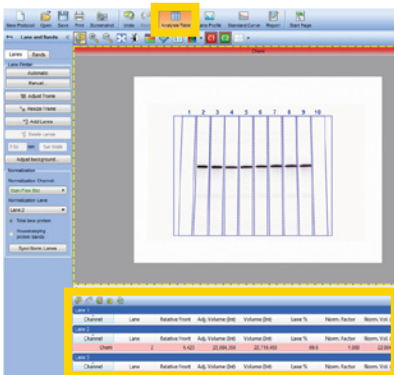

Fig. 7. Analysis table with the calculated normalization factor and normalized volumes.
- View the normalized volumes by selecting **Analysis Table** from the main toolbar (Figure 7). All calculations will be performed by the software, including the normalization factor and normalized volumes. The chemiluminescent blot channel intensity values are now adjusted for variation in the protein loading between different lanes. This will allow accurate comparisons of target protein intensities across all lanes of a gel